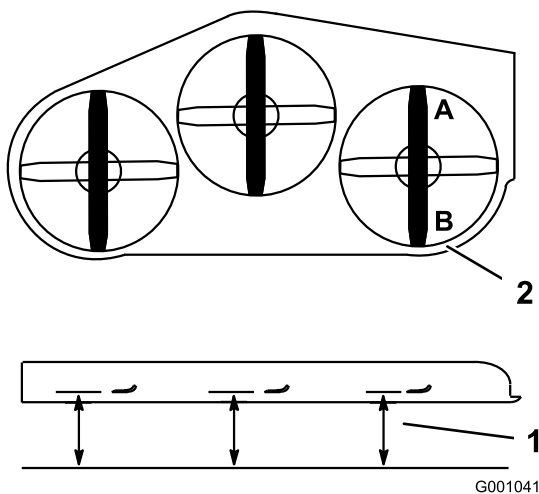

Figure 86
2. Position one blade front-to-rear. Measure at **A** and **B** locations from a level surface to the cutting edge of the blade tips (Figure 86).